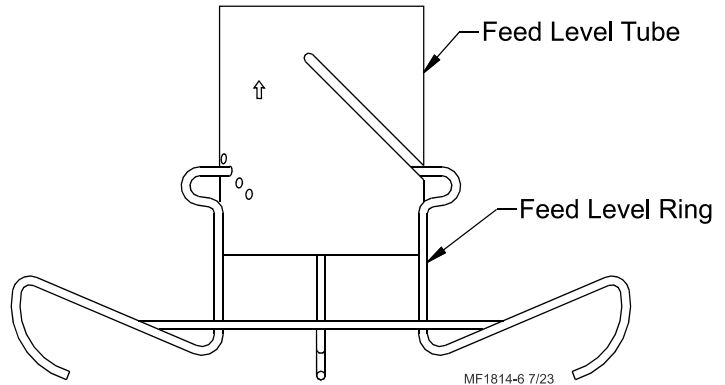

Figure 17. Adult Turkey Feeder Feed Level Ring
- Assemble the Feed Level Tube and Feed Level Ring as shown in **Figure 17**.
- Position the Feed Level Ring in the fourth hole from the top for the steel Adult Turkey Feeder Pan, **see figure 17**.